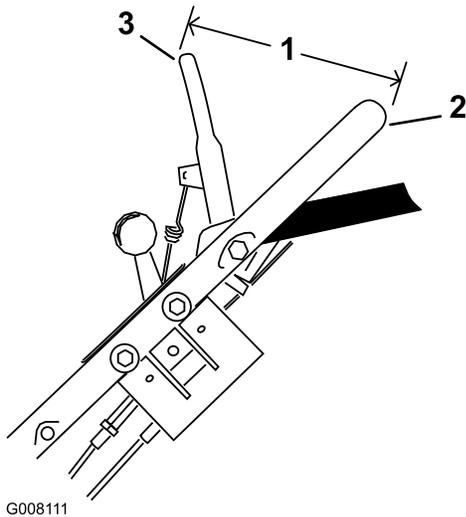

Figure 34
- 6. Hold the blade control bar so that the **outside** of the bar is 5-1/2 inches (14 cm) from the **outside** of the handle, and pull the cable to remove the slack, but do not put tension on the spring (Figure 34).